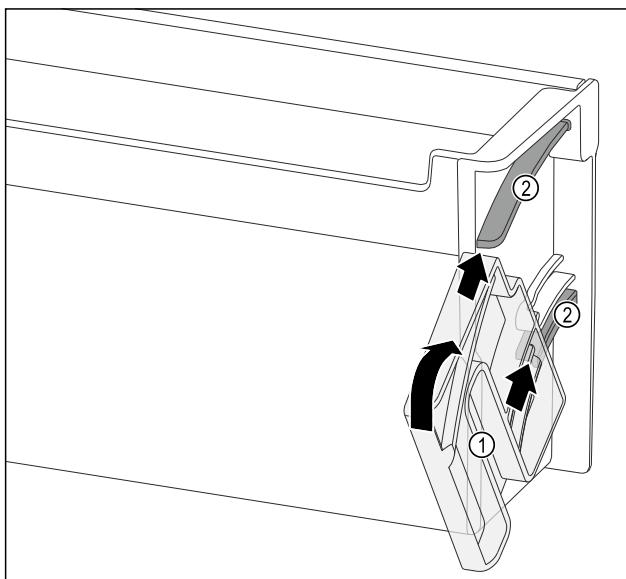

Fig. 127
- ▶ Position the turning unit Fig. 127 (1) so that the recesses are exactly opposite the guide channels Fig. 127 (2) of the door rack.
- ▶ Turn the turning unit Fig. 127 (1) towards the specified direction.